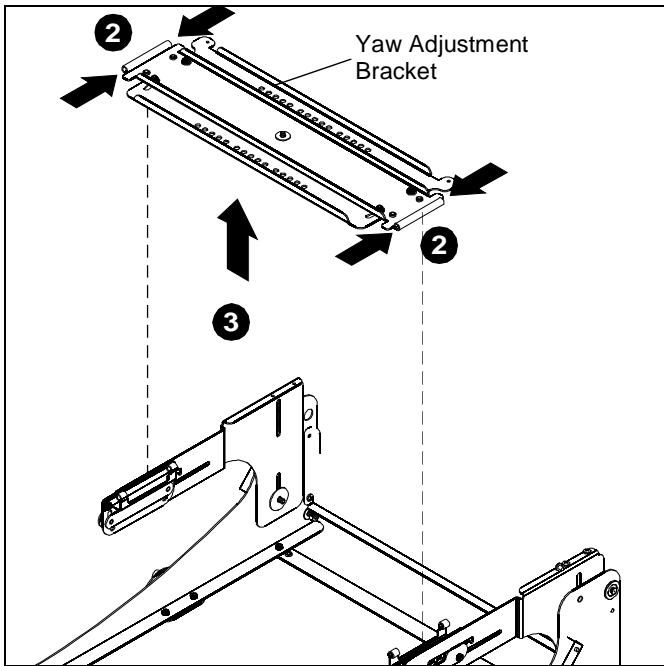

Figure 11
2. Press in end tabs on both ends of yaw adjustment bracket and lock into place. (See Figure 11)
3. Remove the yaw adjustment bracket from the SL236 by lifting up. (See Figure 11)